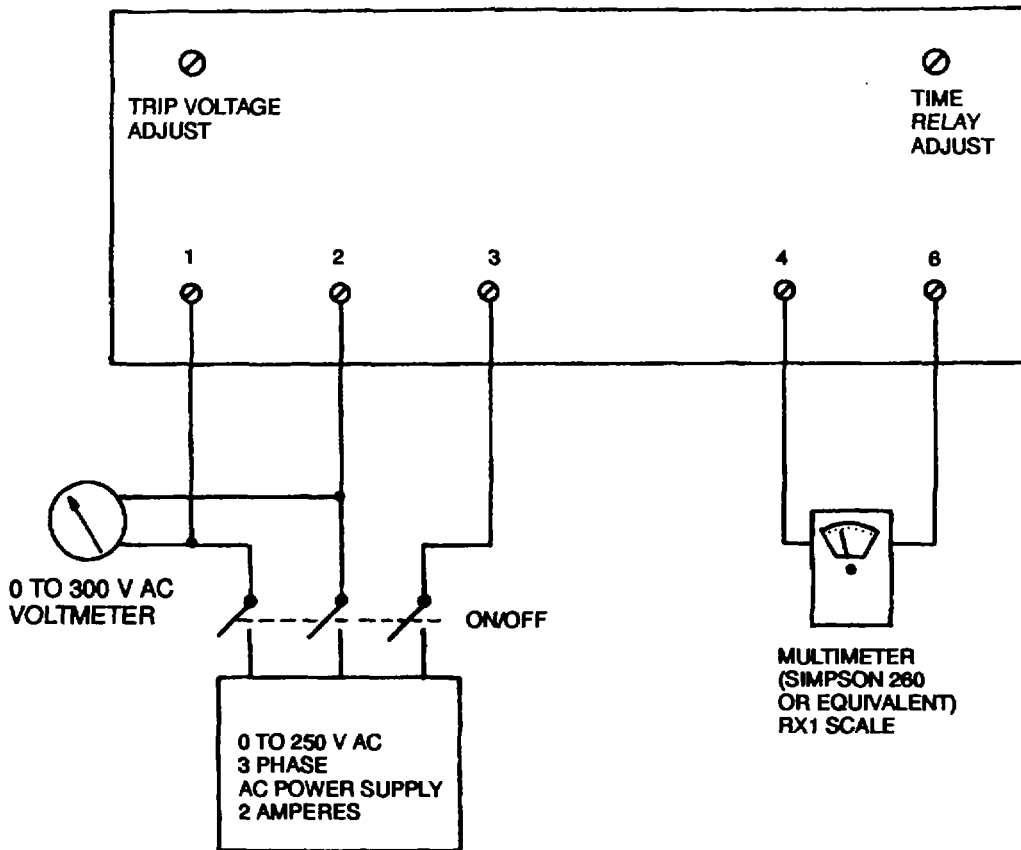

Figure 5-29. Test Setup, Over/Undervoltage Relay K110 and K111
- (c) See Figure 5-29. Connect the 3 phase 250 V ac variable voltage source at terminals 1, 2, and 3 of K110. Set multimeter to RX1 scale and connect across terminals 4 and 6 of the relay.
- (2) Test.
- (3) Adjust.
- (a) If relay does not trip at the specified voltage (239 ± 5 V ac), turn the trip voltage adjustment at the upper left of the relay clockwise or counter clockwise to accordingly increase or decrease the over voltage threshold level. Repeat step (2)(b), above, and continue adjusting until the desired 239 ± 5 V ac trip point is attained.
- (b) If relay does not trip within the specified 3 ± 1 second time, turn the TIME RELAY adjustment on the upper right of the relay clockwise or counterclockwise to increase or decrease the time delay. Repeat step (2)(c), above, and continue adjusting until the specified 3 ii second time delay is attained.
- (4) If specified over voltage threshold and/or time delay period cannot be attained through the relay adjustment pots. Replace the over voltage relay Ki10.
- (c) See Figure 5-29. Connect the 3 phase 250 V ac variable voltage source at terminals 1,2, and 3 of relay K111. Set multimeter to RX1 scale and connect across terminals 4 and 6 of the relay.
(3) Adjust
- (a) If relay does not trip at specified voltage (166 ± 5 V ac), turn the trip voltage adjustment at upper left of the relay clockwise or counterclockwise to either increase or decrease the undervoltage threshold level. Repeat step (2)(b), above, and continue adjusting until the desired 166 ± 5 V ac trip point is obtained.
- (b) If relay does not trip within the specified $1 \frac{1}{2} \pm 1$ seconds time delay, turn the time delay adjustment pot at upper right of relay clockwise or counterclockwise to either increase or decrease the relay's time delay setting. Repeat step (2)(c), above, and continue adjusting until the specified $1 \frac{1}{2} \pm 1$ seconds time delay is attained.
- (4) Replace. If the specified undervoltage threshold and/or time delay period cannot be attained through the relay adjustment pots, replace the undervoltage relay.